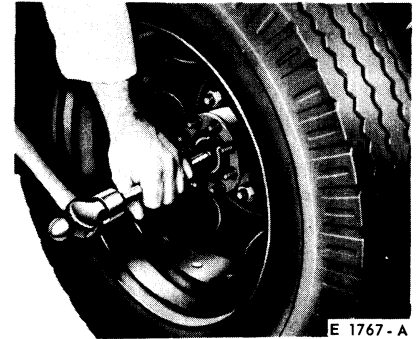

FIG. 5 Axle Shaft Removal—Tapered Dowels
4. If tapered dowels are installed in the axle shaft flange, place a drift in the center of the flange and strike it sharply to loosen the dowels (Fig. 5).